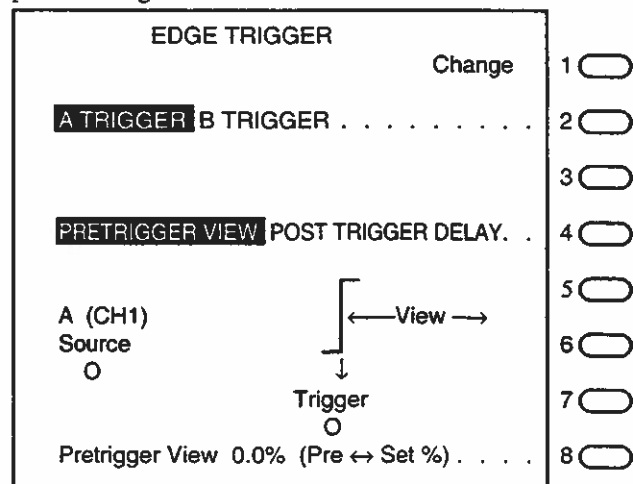

Figure 3.14.1 Edge Trigger Menu
When Trigger tools is selected by pressing the Trigger menu button (3), the current trigger tools configuration menu is displayed, an example of which is shown in figure 3.14.1.